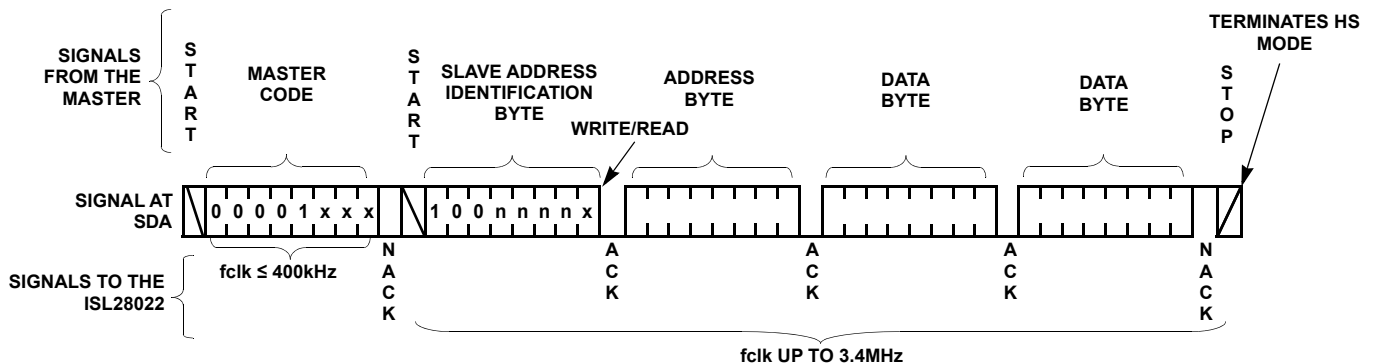

FIGURE 32. BYTE TRANSACTION SEQUENCE FOR INITIATING DATA RATES ABOVE 400Kbs
Following an idle bus condition (SDA and SCL lines are pulled high by the pull-up resistors), the master generates a start condition followed by a valid serial byte that contains the high-speed (HS) master code 00001XXX. This transmission is made in standard or fast mode at no more than 400kHz. The ISL28022 does not acknowledge the HS master code but does recognize it and switches its internal filters to support 3.4MHz operation. Figure 32 illustrates the data sequence for the HS mode.